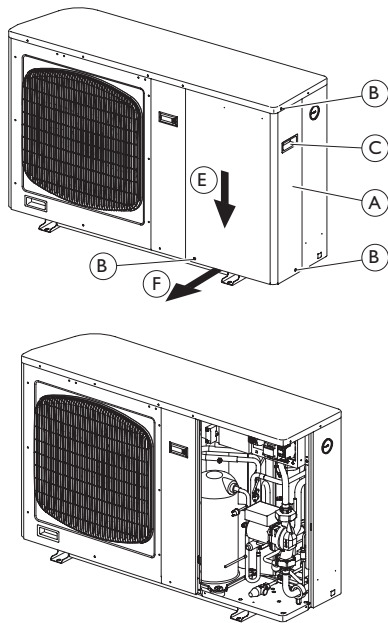

Fig 8. Removal of side panel
2. Remove the 3 screws from the side panel as shown in Fig 8. Remove the panel by pushing down until it clicks and lift away.